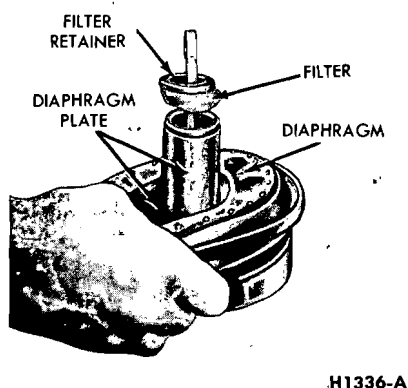

FIG. 38—Removing Diaphragm—Bendix Booster
7. Remove the diaphragm from the diaphragm plate as shown in Fig. 38.